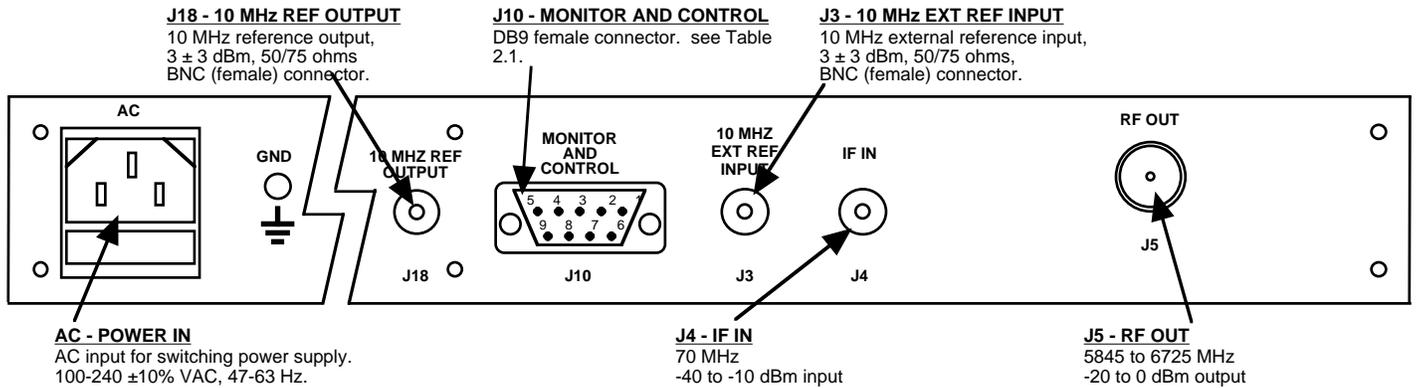

FIGURE 2.2 2015-58T Rear Panel Inputs and Outputs
2.2 Rear Panel Input / Output Signals - Figure 2.2 shows the input and output connectors on the rear panel.
1. Connect a -30 dBm to -10 dBm, 70 MHz signal to IF IN, J4 (Figure 2.2).
Alarm indications appear on the LEDs (see figure 2.2).